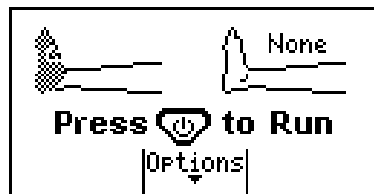

Figure 15 - Only One Garment Connected
- 2.3.3 Figure 15 shows a foot garment connected to one hose set assembly, and no garment connected to the other.